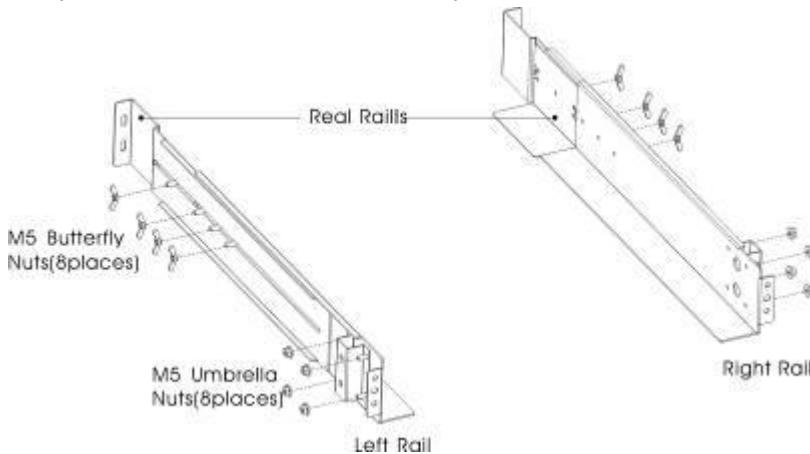

Figure 4 Securing the Rails
1. Assemble the left and right rails to the rear rails as shown in Figure 4. Do not tighten the screws.
3. Tighten four M5 Umbrella Nuts in the side of rail assembly (see Figure 4).